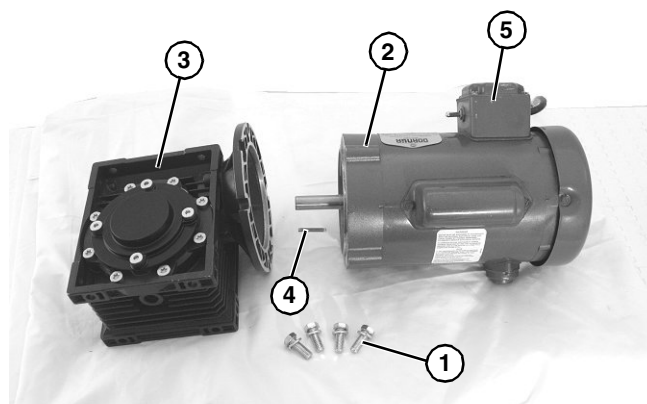

Figure 34
4. Apply anti-seize to motor shaft before assembling to gearbox. With key (**Figure 34, item 4**) in keyway, slide motor (**Figure 34, item 2**) and gear reducer (**Figure 34, item 3**) together. Install screws (**Figure 34, item 1**) and tighten.
1. Remove four (4) screws (Figure 34, item 1). Detach motor (Figure 34, item 2) from gear reducer (Figure 34, item 3). Retain motor output shaft key (Figure 34, item 4).
2. With key (Figure 34, item 4) in keyway, slide motor (Figure 34, item 2) and gear reducer (Figure 34, item 3) together, noting where position of switch (Figure 34, item 5) will be during installation on conveyor.
3. Install screws (Figure 34, item 1) and tighten to 60 in-lb (7 Nm).